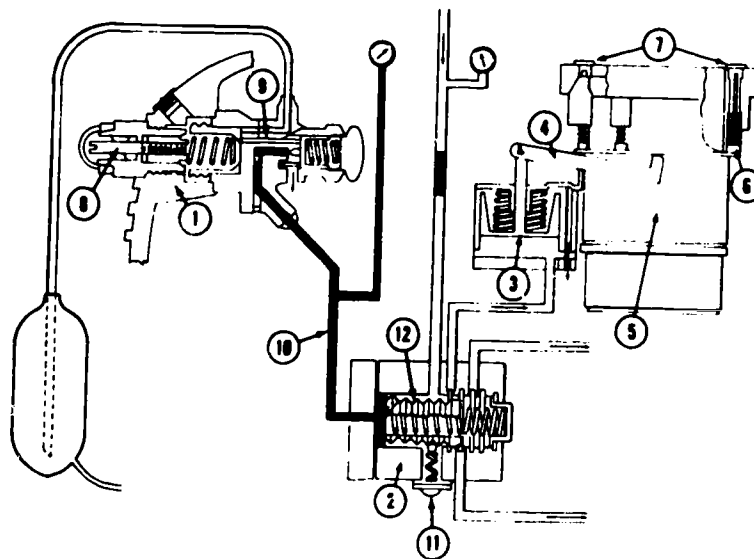

Figure 22. Cylinder Unloader Circuit
OPERATION: The operation can be traced in figure 22. The pressure from the crankcase is fed through a surge chamber which changes the pulsating pressure to a stabilized oil flow to the capacity control valve (1). As the increase of pressure enters the valve, an internal bellows is expanded; and the push rods attached to the needle and seat assembly pull the needle toward the seat. This action increases the control oil pressure. The increase of pressure in the crankcase is also passed through the oil pump to the hydraulic relay (2).